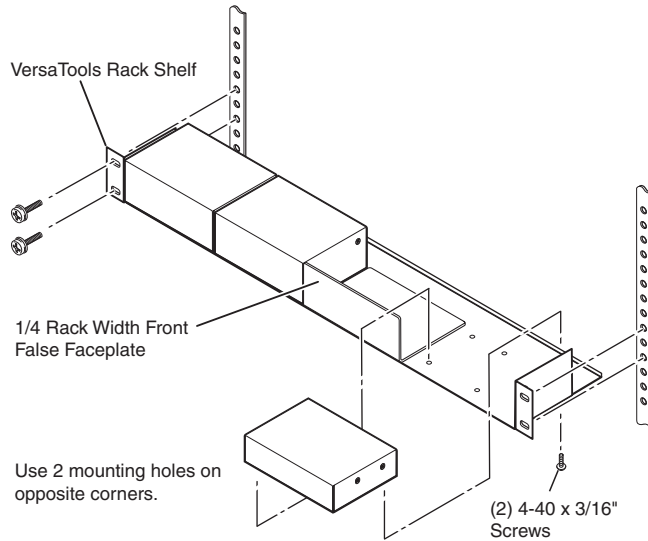

Figure 2 — Mounting the SEQ on a VersaTools rack shelf
- RSF 123 3.5" deep 1U VersaTools® rack shelf kit (part #60-190-20) (figure 2)